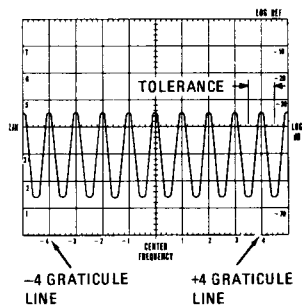

Figure 4-3. Scan Width Accuracy Display
- Note that a 20 kHz marker appears at about every major division on the CRT display. Tune FREQUENCY and FINE TUNE to center a marker on the –4 graticule line (see Figure 4-3).